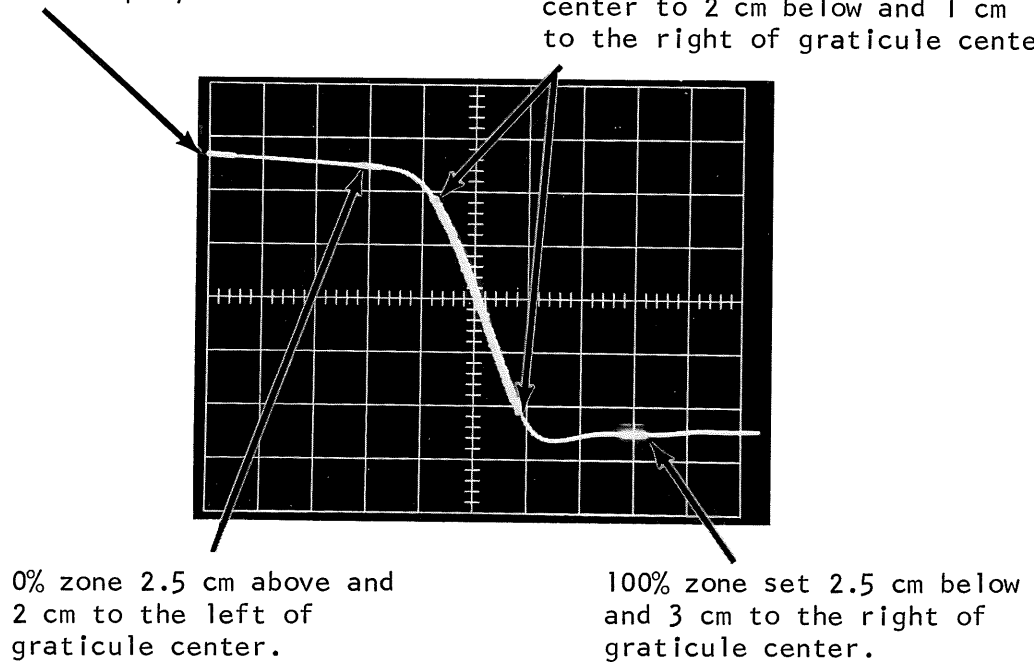

Figure 5-30
4. With the VARIABLE MV/DIV control, adjust for 5 cm of vertical deflection. Position the 0% zone 2 cm to the left and 2.5 cm above graticule center. Position the 100% zone 3 cm to the right and 2.5 cm below graticule center. See Figure 5-30.